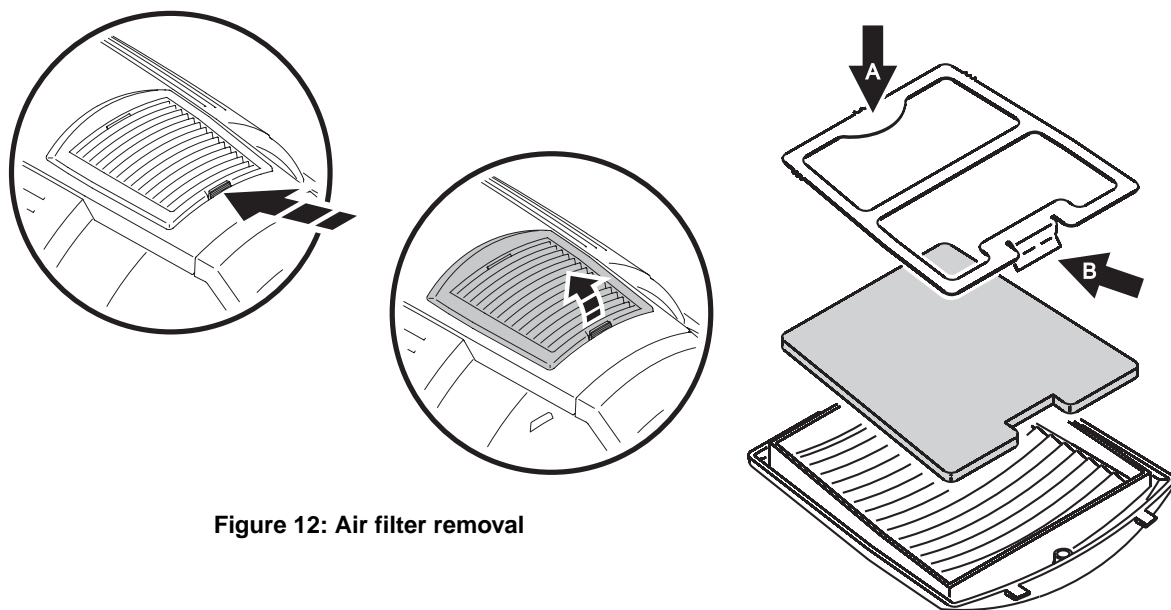

Figure 12: Air filter removal
1. See Figure 12. On each side of the head, push on the retaining tab to unclip and remove the 2 air filter covers.